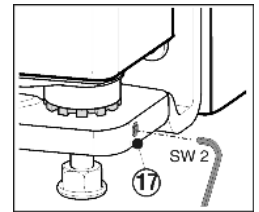

Fig. 21
- Extend the threaded pin Fig. 21 (17) a little (by one turn at most!).
- Tighten the threaded pin Fig. 21 (17) again to secure the bearing pin.